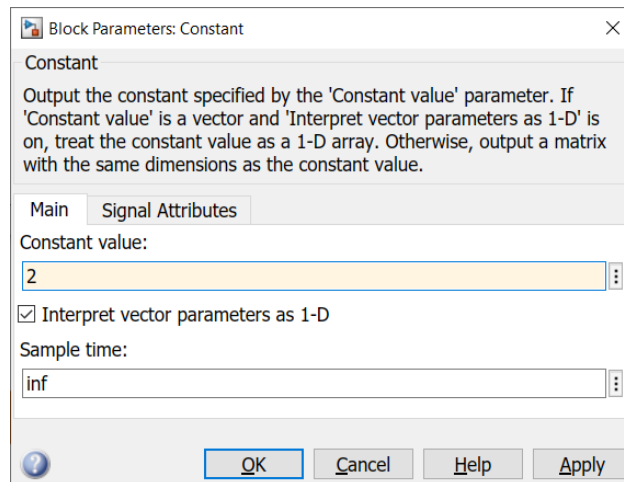

Figure 11 Change parameter of the Constant block
- Double-click the Constant, change the Constant value to 2 as shown in **Fig. 11**.